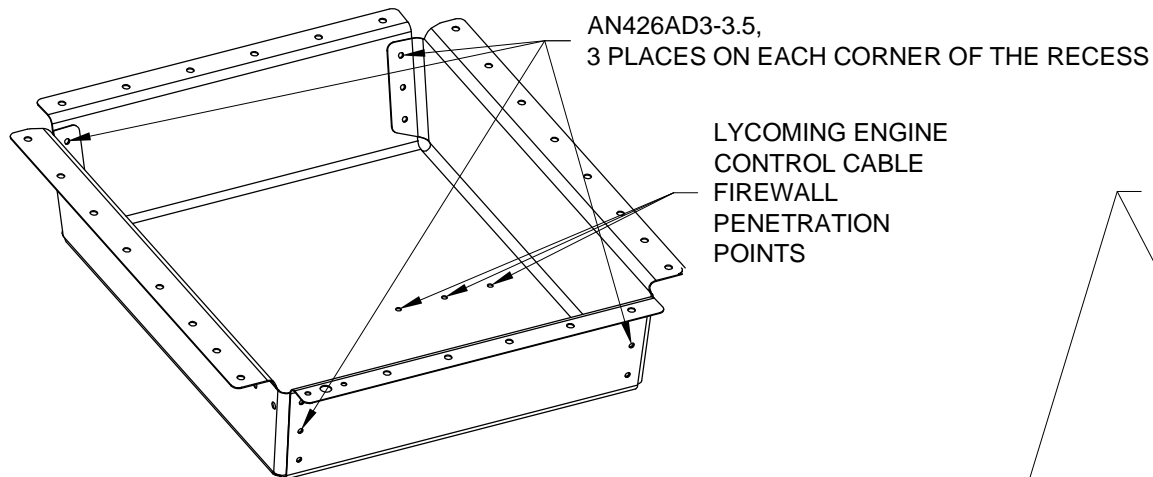
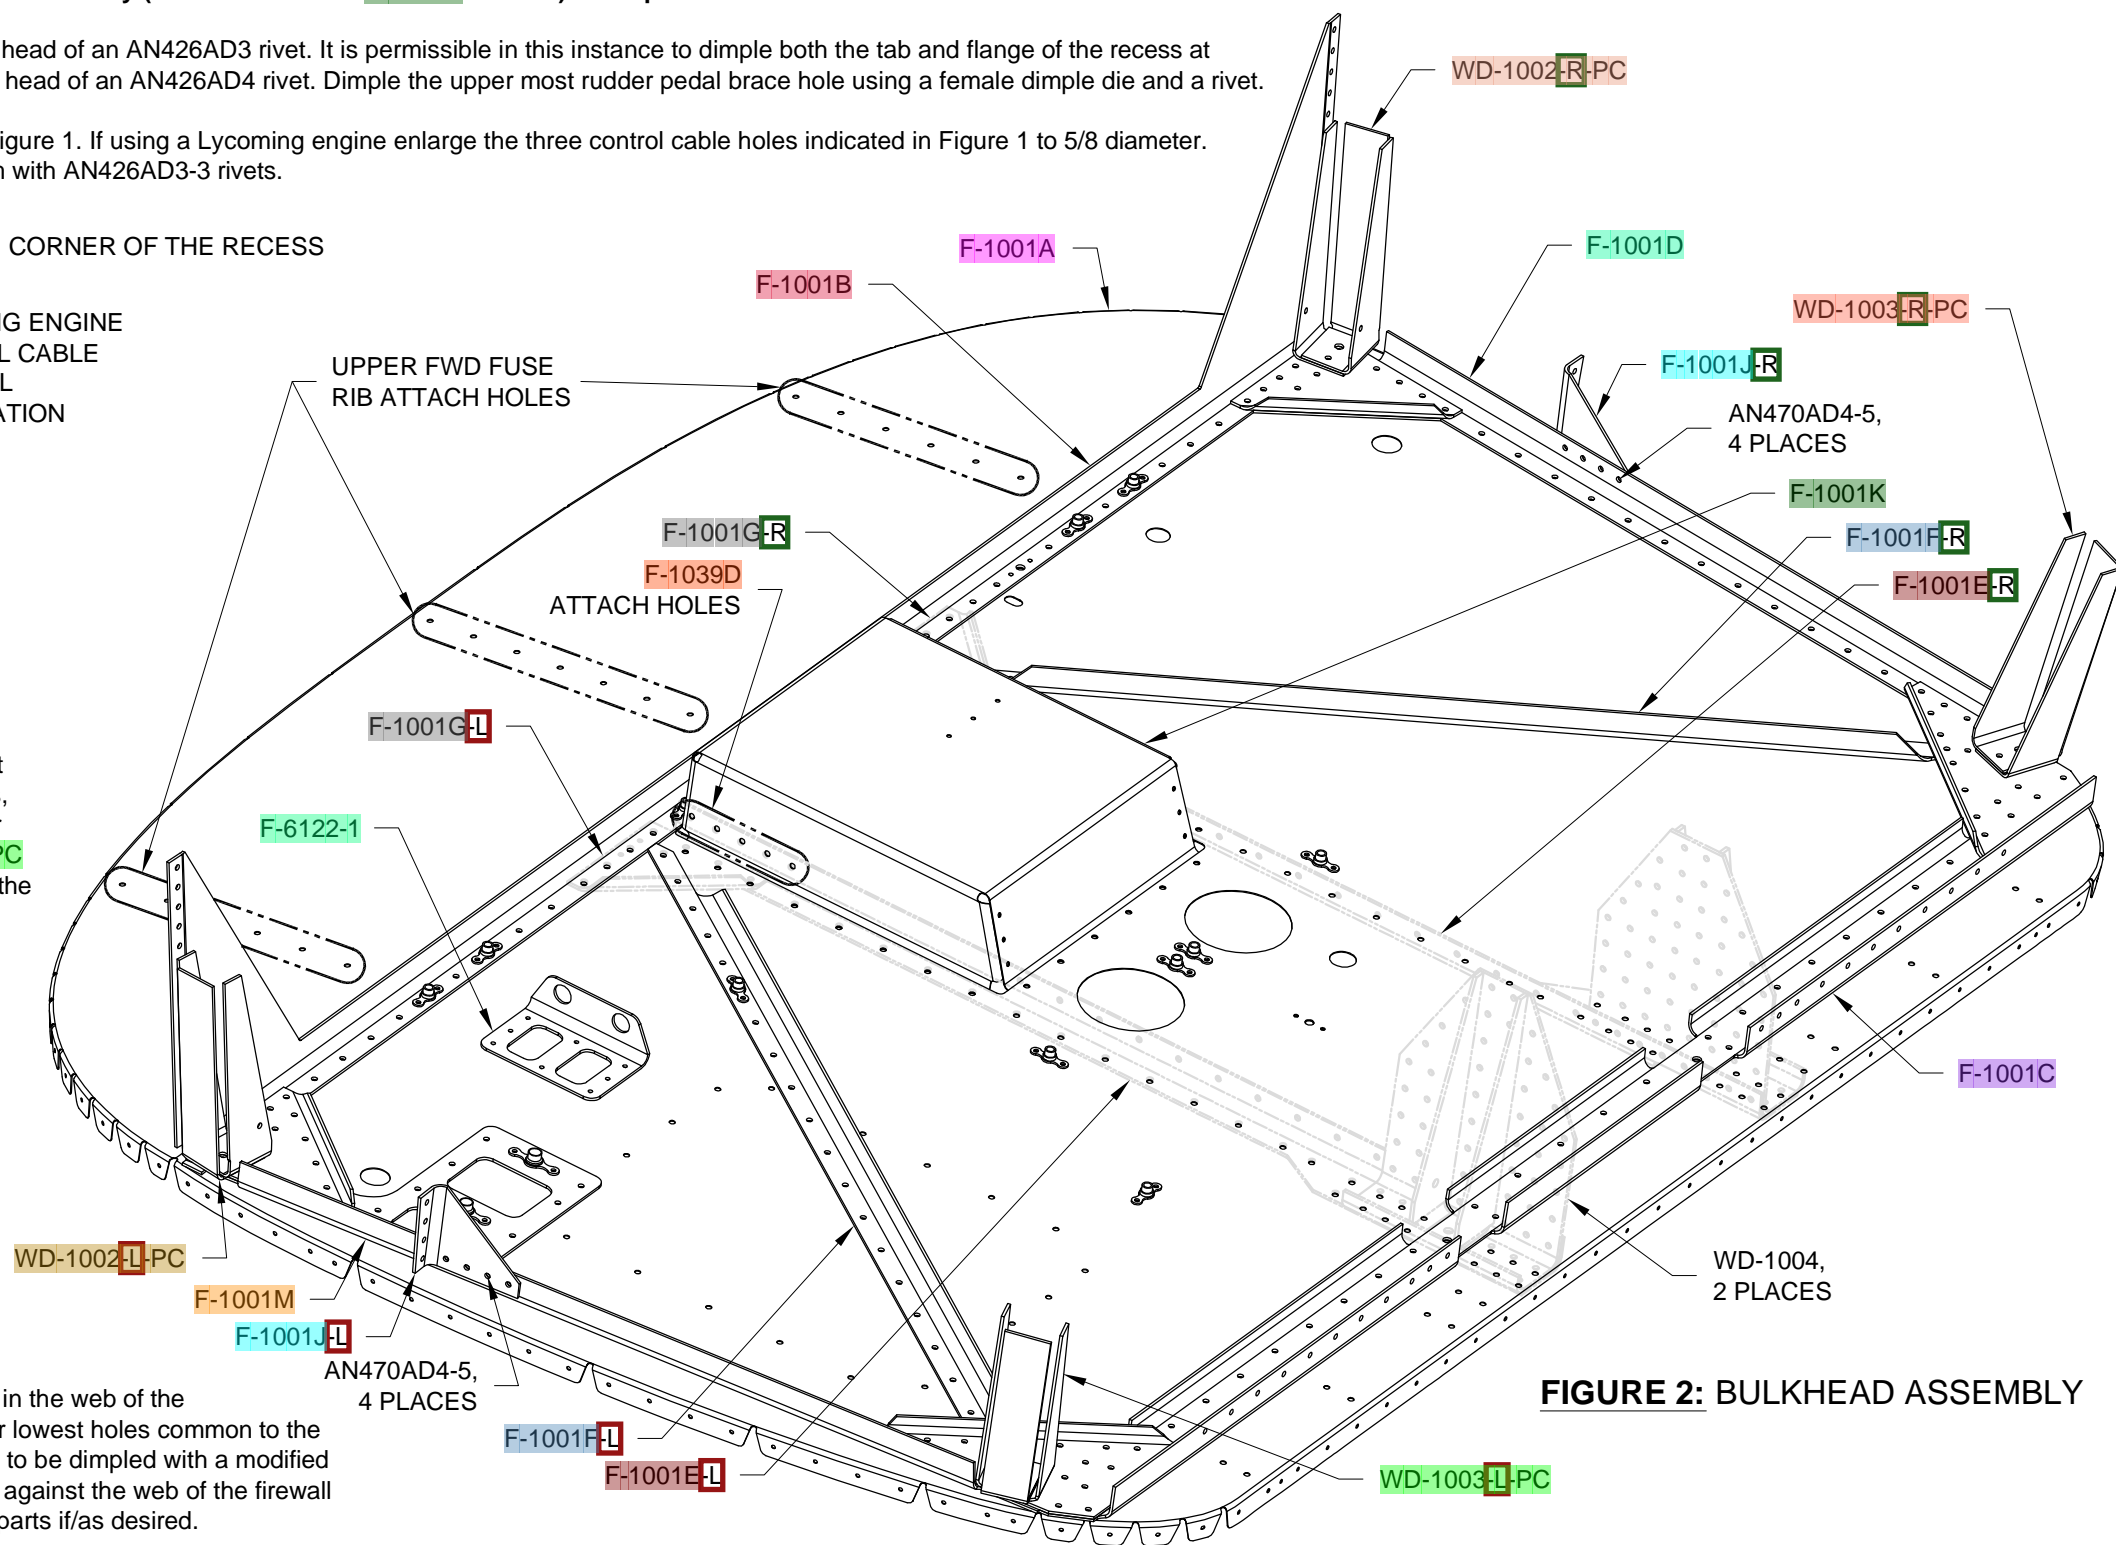

FIGURE 1: PREPARING THE RECESS
FIGURE 2: BULKHEAD ASSEMBLY
Step 1: Cleco then final-drill #40 all the holes that attach the **F-1001K** Recess to itself (See Figure 1). Final-Drill #30 the five **F-1039D** Rudder Pedal Brace attach holes in the side of the recess as called out in Figure 2.
Step 3: Rivet the holes that attach the **F-1001K** Recess to itself as called out in Figure 1. If using a Lycoming engine enlarge the three control cable holes indicated in Figure 1 to 5/8 diameter. If not using a Lycoming engine final-drill and dimple these holes #40 then fill them with AN426AD3-3 rivets.
The **F-1001J-L** and **R** Longerons Gussets come tabbed together. Break the **F-1001J** into the left and right gussets and deburr the edges. Cleco the gussets to the left and right side angles as shown in Figure 2.
Step 5: Final-Drill #40 all the nutplate attach rivet holes. Final-Drill the screw holes for the two K1000-4 nutplates 1/4 diameter and the screw holes for the fourteen K1000-3 nutplates #12. Final-Drill #40 the eight holes common to the **F-1001A** Bulkhead and the **F-6122-1** Tri-Gear Brake Bracket. Final-Drill #30 all the remaining holes common between the bulkhead and the parts clecoed together in Step 4. Final-Drill #30 all the holes common to the **F-1001J-L** and **R** Longerons Gussets and the **F-1001D** and **F-1001M** Side Angles. Final-Drill #30 all remaining open holes that attach the oil cooler (see Page 27-5 Figure 1) and the open holes for the upper fwd fuse ribs, see Figure 2.
Cleco the two K1000-4 and fourteen K1000-3 nutplates to the firewall as shown in Figure 2 and Page 27-5, Figure 1. Note that all but two of the nutplates attach to the aft side of the firewall, see Page 27-5, Figure 1. Rivet the assembly together per the callouts in Page 27-5, Figure 1. **Do not rivet any of the holes common to the center angles, gussets or nose gear tension fittings until Page 27-4!** If not using a Lycoming engine fill the holes that attach the oil cooler box (see Page 27-5, Figure 1) except those common with the **F-1001M** Left Side Angle with AN426AD4-4 rivets. The finished Firewall Bulkhead Subassembly is shown in Figure 2 (note the center angles, gussets and nose gear tension fittings that are not riveted at this time are shown transparent).